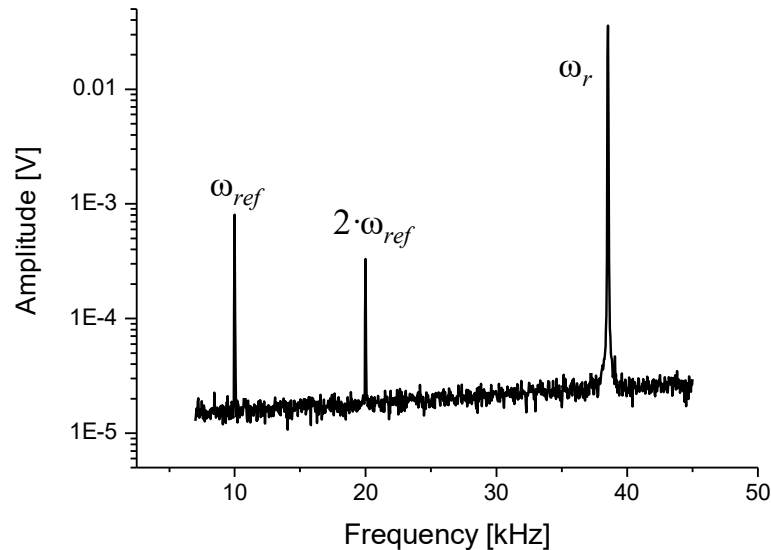

Figure 3: Frequency spectrum of the oscillating cantilever
Inserting equation (6) in (5) and using power-reduction formulas of trigonometric functions one can expect a force between tip and sample at the frequency  $\omega_{ref}$  as well as at  $2 \cdot \omega_{ref}$ . Figure 3 confirms this prediction: It shows the frequency spectrum of the cantilever oscillation with clear signals at the mechanical excitation frequency  $\omega_r$  and at the frequencies of the first and second harmonic of the electrical excitation.